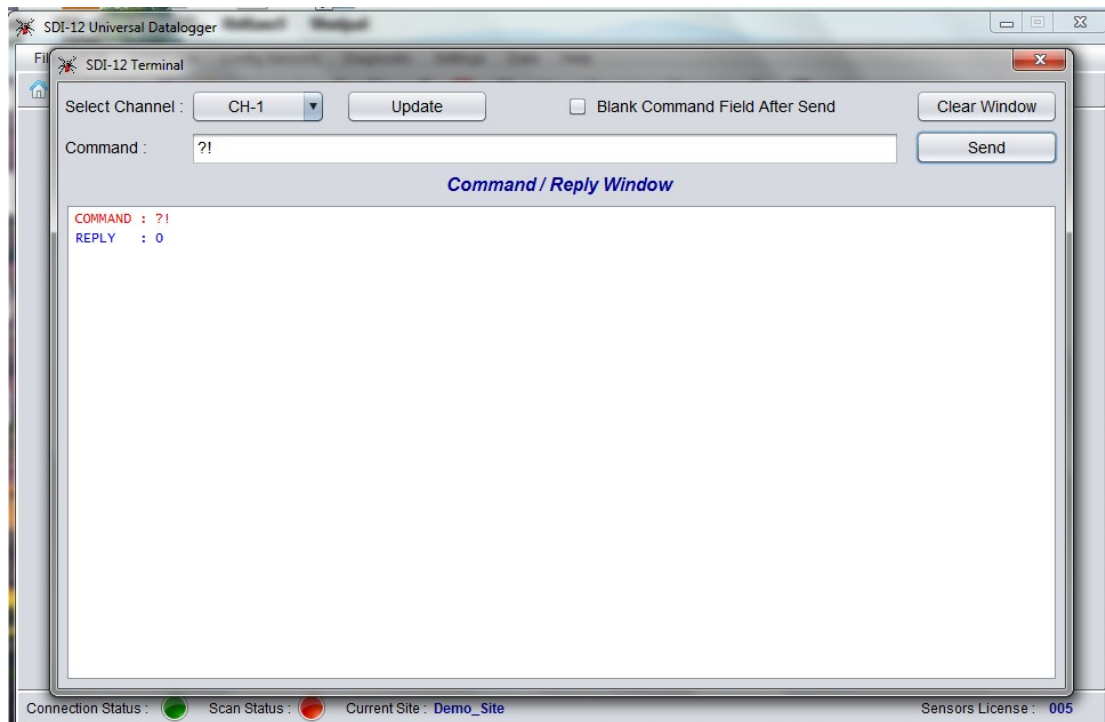

Figure 26 Command/Reply Window
- Now type "?!" on the "Command" bar and click "Send" to read the sensor's present address (figure 26).